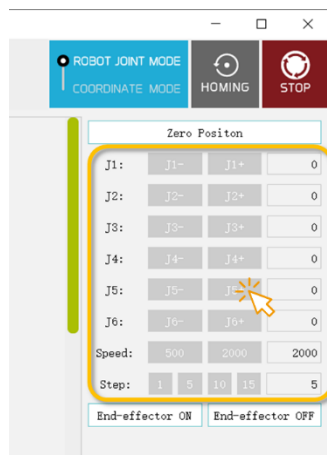

Figure 3.19 The ROBOT JOINT MODE control buttons
(3) Click each of the J+ J- control buttons on the right panel to control the motion of each of the six joints of the manipulator separately. The speed can be adjusted by input **Speed** value, and the step can be adjusted by input **Step** value. As shown in Figure 3.19.